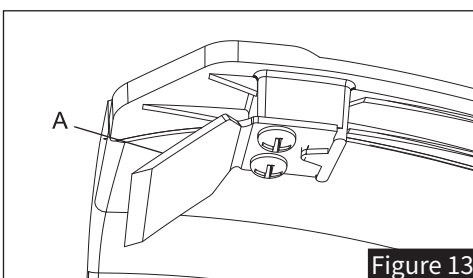

Figure 13
Note: The integrated blade (Figure 13, Item A) in the trimmer line guard automatically cuts the line to its optimal length during operation.
- The integrated blade (Figure 13, Item A) in the safety guard will shorten the trimming line to the correct length when the engine is started.